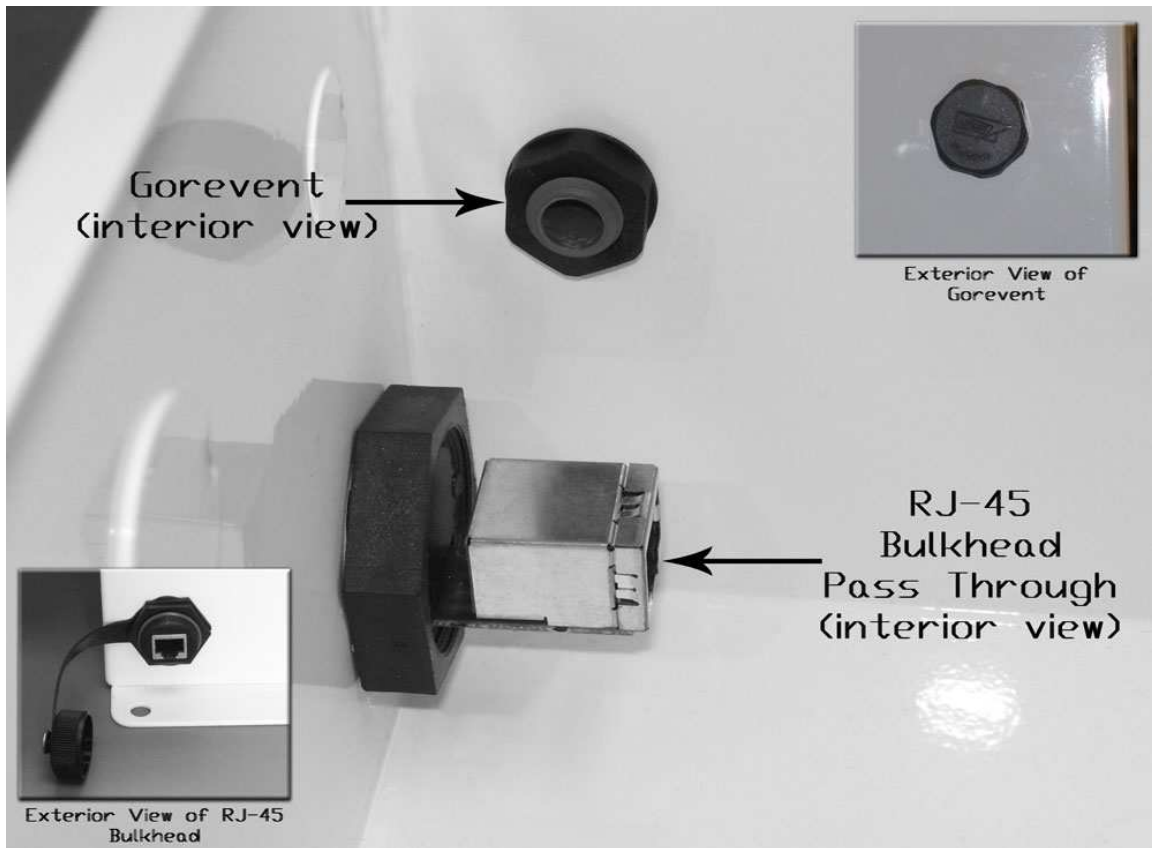

Figure 2
The model 1024-00 has (2) 1" knockouts in the bottom, which can accommodate Oberon's 35-RJ45-KIT bulkhead mounted modular connector, or 1" conduit clamps (Figure 2). The ½" knockout in the side of the 1024-00 is for the Gore vent. The Gore vent (Oberon Part No. 35-GOREVENT-KIT) is a Gore-tex material, which allows the enclosure to "breathe" (equalize interior and exterior air pressure over temperature) without drawing in water vapor (Figure 2). This can help to reduce condensation in tightly weather-proofed enclosures. Notice that the Gore Vent tightening nut is on the interior of the enclosure.